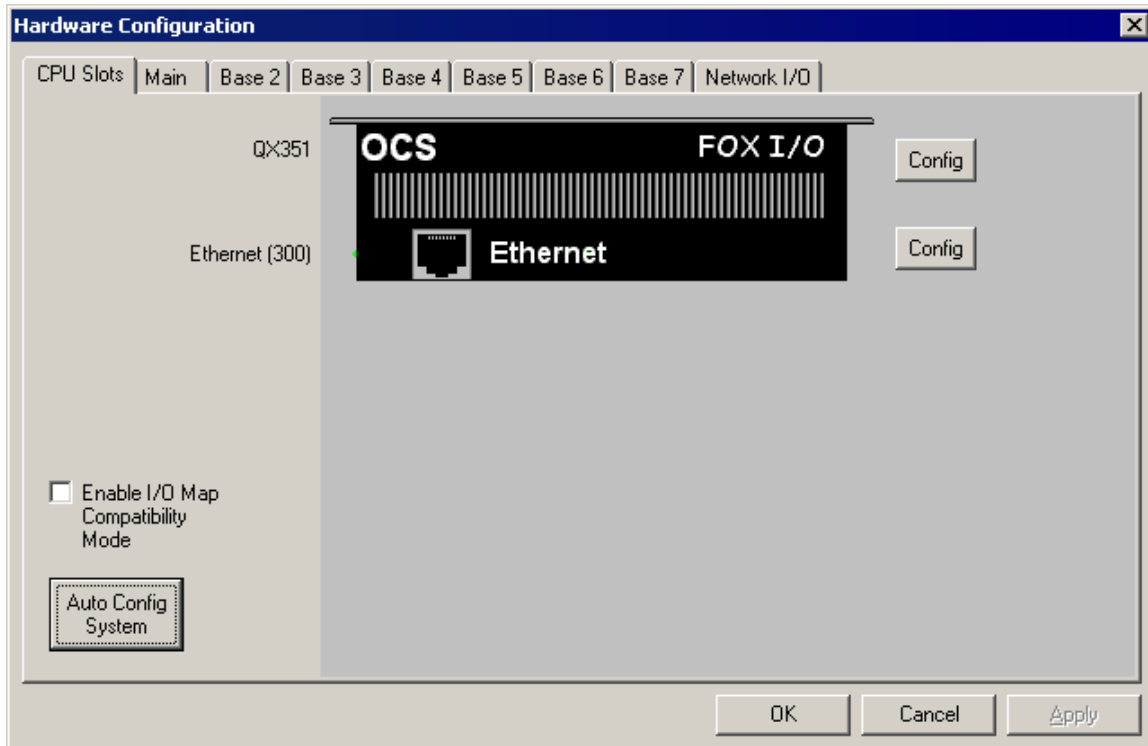
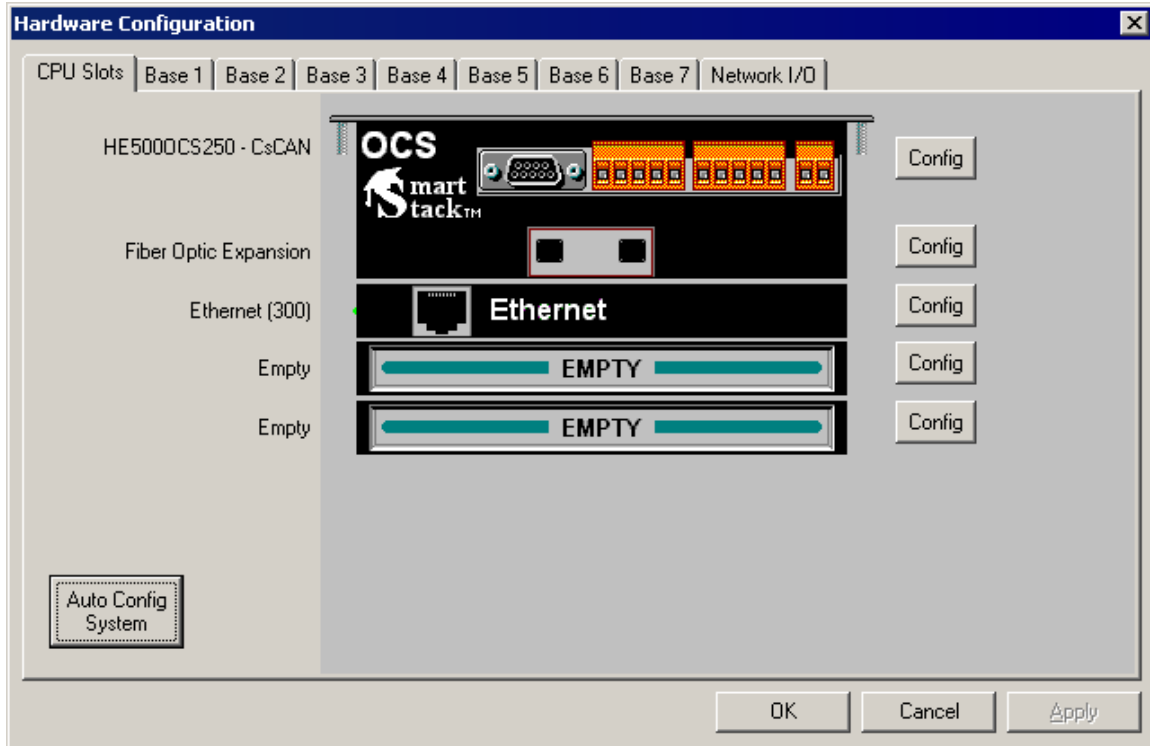
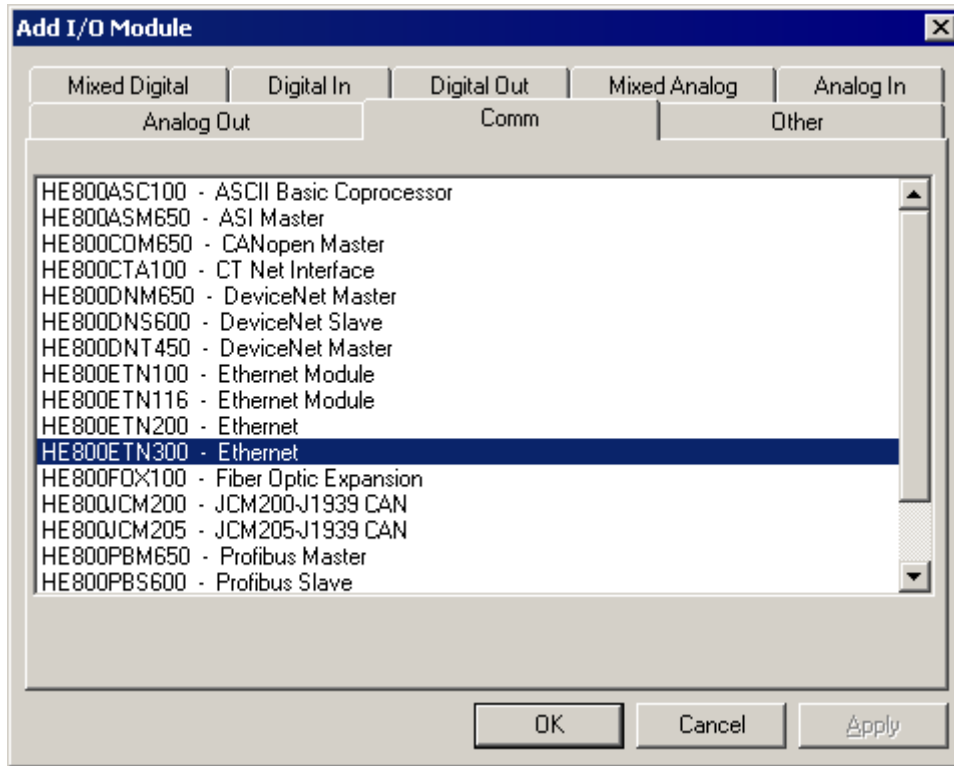

Figure 3-1 – Hardware Configuration Dialog – OCS Models With Built-In Ethernet
Figure 3-2– Hardware Configuration Dialog – OCS Models With User-Installable Ethernet
Figure 3.3– Add I/O Module Dialog – Comm Tab and Ethernet Module Selected
1. On the main Cscape screen, select the **Controller** menu and its **I/O Configure** sub-menu to open the I/O Configuration dialog (Figure 3.1 or Figure 3.2).
Note: Figure 3.1 shows a typical I/O Configuration dialog for OCS Models, which have Ethernet Modules built-in. For these models, step 3 should be skipped.
Figure 3.2 shows a typical I/O Configuration dialog for other OCS Models, in which the Ethernet Module is a user-installable option. For these models, step 3 must be performed, to configure the Ethernet Module into a SmartStack I/O slot.
- a. Referring to Figure 3.2 above, click on the **Config** button to the right of the desired I/O slot, which will open the Add I/O Module dialog, as shown in Figure 3.3.
4. Now it is time to configure the Ethernet Module as appropriate for the application. Referring to Figure 3.1 or 3.4 above, click the **Config** button to the right of the Ethernet Module, and then select the Module Setup tab, revealing the Ethernet Module Configuration dialog (Figure 3.5).